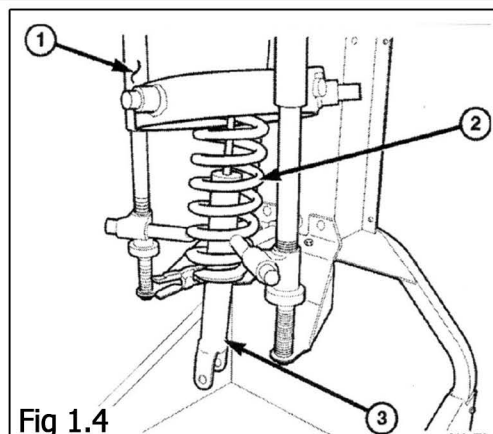

Fig 1.4
12. Compress strut coil spring with suitable strut compressor tools (Branick #7200 or equivalent) **CAUTION!** DANGER SPRING UNDER EXTREME PRESSURE REMOVAL OF TOP NUT PRIOR TO COMPRESSING SPRING CAN CAUSE SEVERE INJURY. ONLY AFTER SAFELY COMPRESSING SPRING SHOULD THE CENTER STRUT NUT BE REMOVED! See Fig 1.4